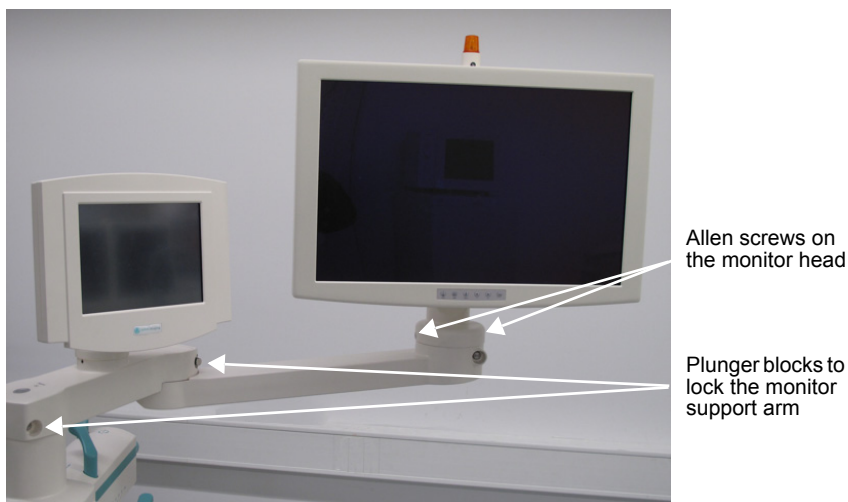

Fig. 12-1 Assembling the monitor support arm
- Align the monitor support arm to 180°, and lock the monitor support arm by pressing the plunger blocks (→ *Fig. 12-1*).
- Unscrew both Allen screws on the monitor head base (→ *Fig. 12-1*).